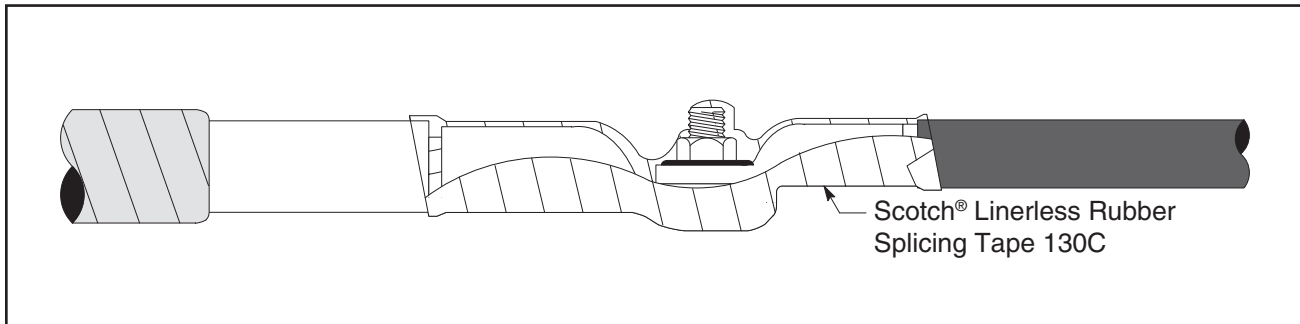

Figure 14
- 8.6 FOR 8 kV ONLY. Cover the lugs and bolt with four half-lapped layers of Scotch® Linerless Rubber Splicing Tape 130C (*Figure 14*).